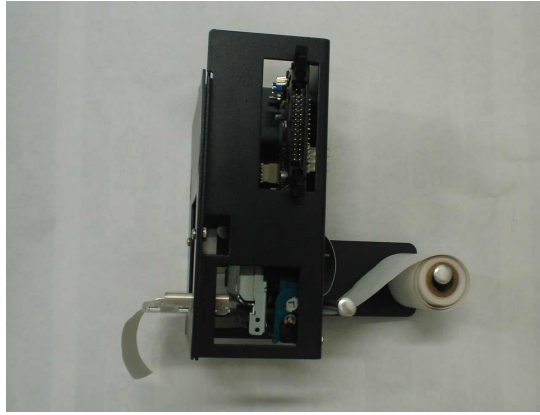

Figure P3: AC7074 Printer – Side View, Showing Proper Roll Placement
2. Move the “Paper Feed Lever” back to the DOWN position. Slide a new roll of paper onto the “Roll Holder,” oriented so the paper comes off on the side toward the printer (refer to Figure P3 for the correct placement).
3. Wrap the paper under the “Paper Guide” and begin to feed it into the “Paper Slot.” You do not need to fold or cut the paper in any way; it should be left square in the front. At a certain point as the paper is being fed in, the printer will detect it and automatically feed it to the printing position. When done, the setup should look like Figure P3.
2. With the “Paper Feed Lever” still in the UP position, slide a new roll of paper onto the “Roll Holder,” oriented so the paper comes off on the side toward the printer (refer to Figure P3 for the correct placement).